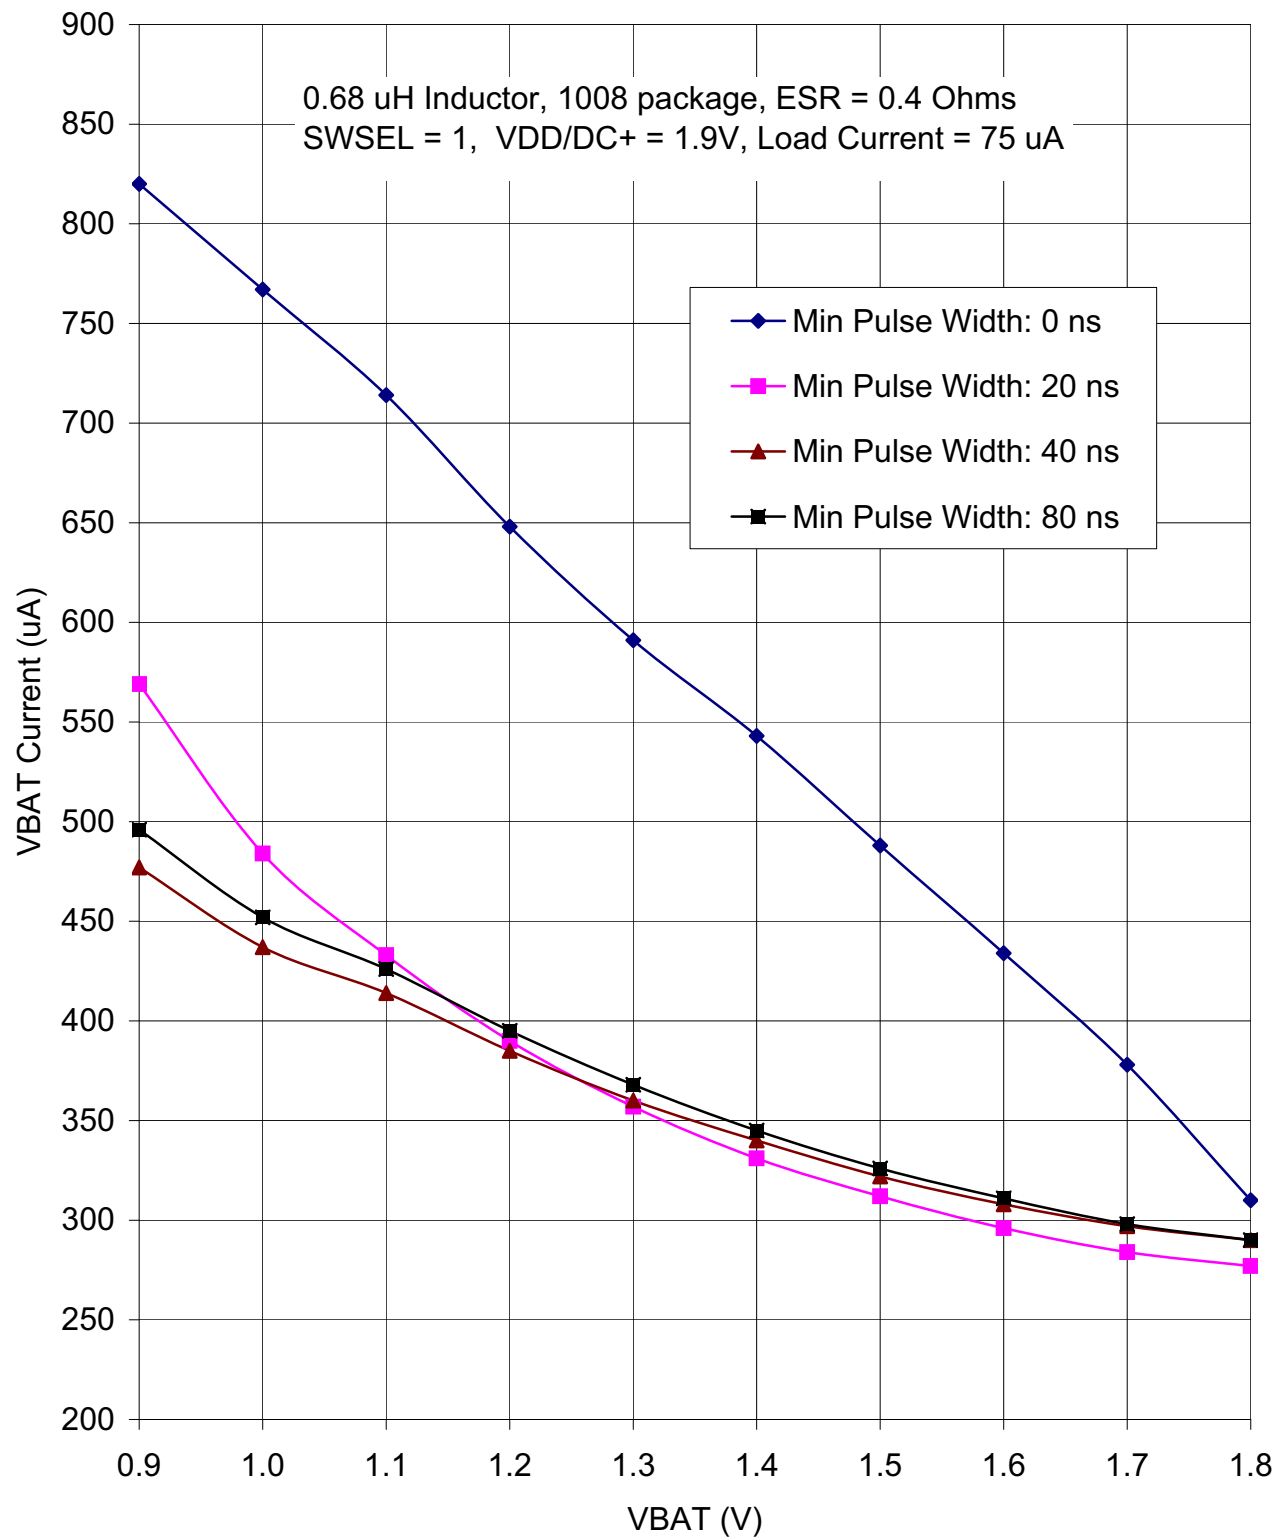

Figure 12. Typical Suspend Mode Supply Current
- **Minimum Pulse Width** - The minimum pulse width forces the dc-dc converter to use a minimum duty cycle. For low current applications (e.g., MCU in suspend mode), a single pulse provides enough charge to keep the output above the target voltage for several clock pulses. The dc-dc converter remains idle during these clock cycles. This causes an improvement in efficiency due to a reduction in switching losses. Figure 12 shows the effect of minimum pulse width on suspend mode current.